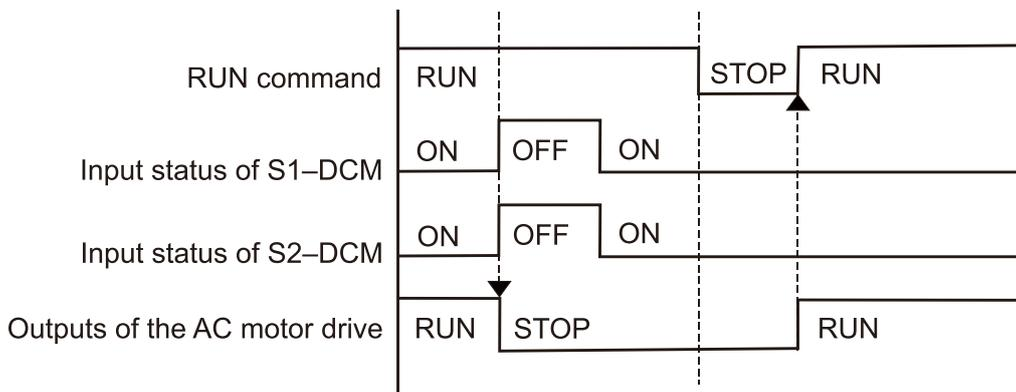

Figure 17-7
As shown in Figure 17-7, when both of S1-DCM and S2-DCM are OFF during operation (STO function is required), the drive stops outputting. When the S1 / S2 status is restored (ON), the STO alarm clears automatically. The drive outputs when the RUN command is executed again.